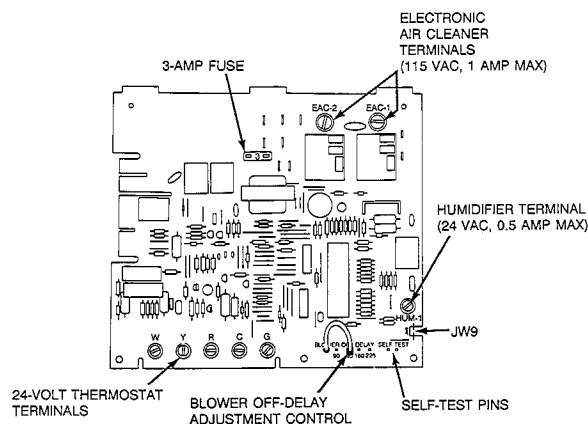
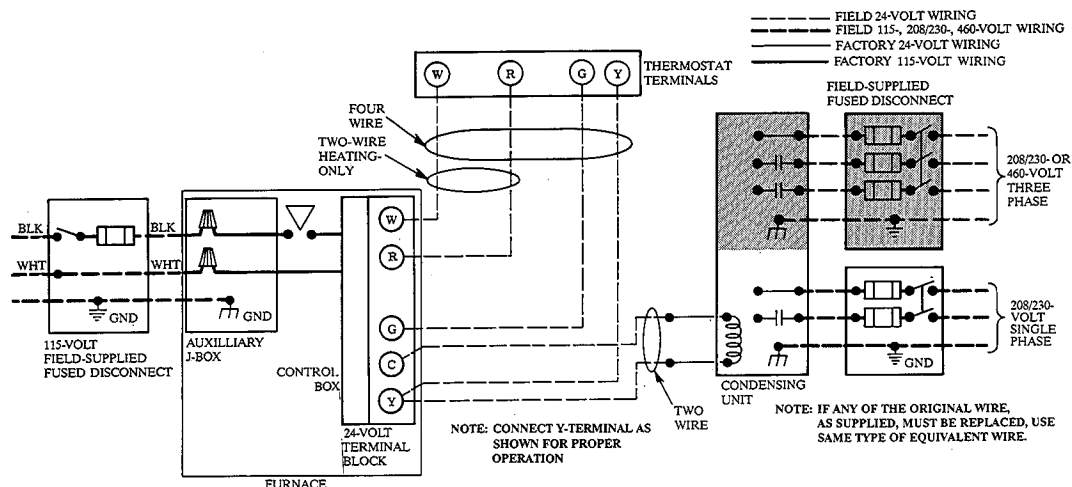

Figure 11—Control Center
Figure 12—Heating and Cooling Application Wiring Diagram
Make field 24-volt connections at the 24-volt terminal strip. (See Figure 11.) Connect terminal Y as shown in Figure 12 for proper operation in cooling mode. Use AWG No. 18 "color-coded" wire only.
1. Self-test—The furnace features a self-test system to help diagnose a system problem in the case of a component failure. Two test pins (ST-1 and ST-2) are located in the upper right-hand corner of the control board as shown in Figure 11. To initiate the self-test procedure, momentarily short across the two pins (approximately 0.5 seconds).